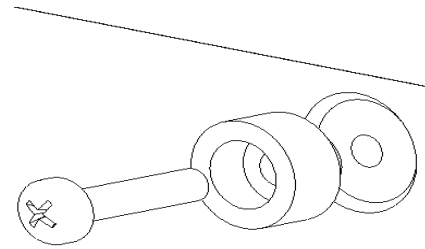

Figure 21. Remove Sony Mounting Buttons
- Using a Phillips screwdriver, remove the four mounting buttons attached to the back of your Large Flat Panel display (see Figure 21).